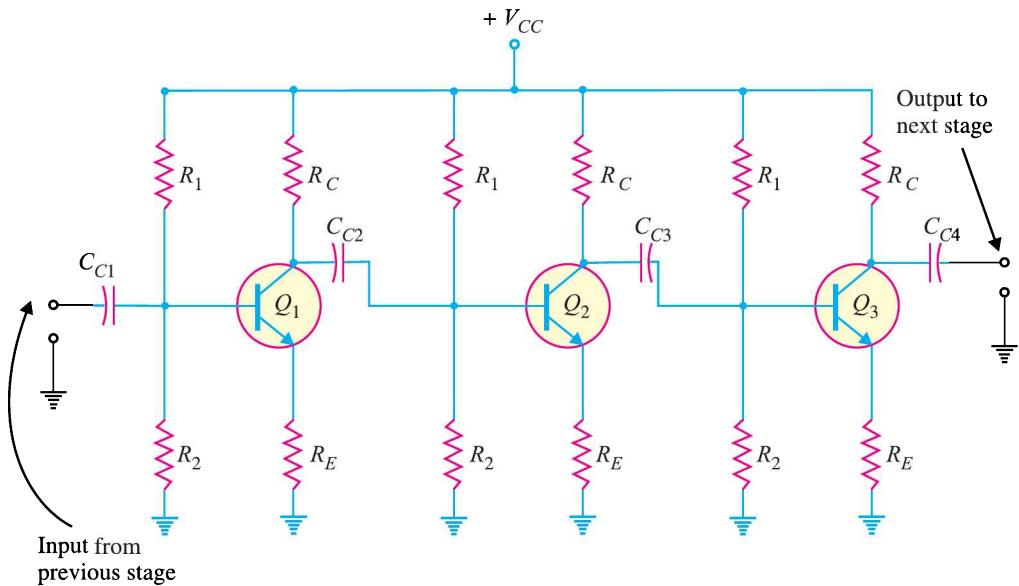

Fig. 11.2
1. **As coupling capacitors.** In most applications, you will not see a single transistor amplifier. Rather we use a multistage amplifier i.e. a number of transistor amplifiers are connected in series or cascaded. The capacitors are commonly used to connect one amplifier stage to another. When a capacitor is used for this purpose, it is called a *coupling capacitor*. Fig. 11.2 shows the coupling capacitors ( $C_{C1}$ ;  $C_{C2}$ ;  $C_{C3}$  and  $C_{C4}$ ) in a multistage amplifier. A coupling capacitor performs the following two functions :